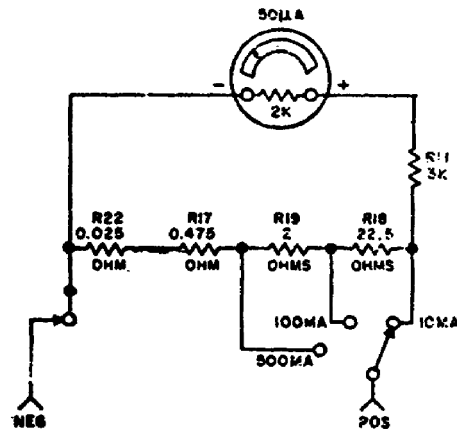

Figure 10. DC ammeter.
f. Figure 10 shows the simplified diagram of a typical DC ammeter. The ammeter circuit must shunt most of the current being measured away from the meter movement. On the 10 milliampere (10mA) range, the meter movement resistance of 2K ohm is in series with the 3K ohm resistance of R11. R17, R18, R19 and R22 are in series with each other and are in parallel with R11 and the meter movement. Resistive values have been selected so that 50µA will flow through the meter and R11 and 9.950mA will flow through R22, R17, R19 and R18 when 10mA is being measured. The truth of this statement can be proved using Ohm's law. Let "x" be equal to the amount of current flowing through the meter when there is a 10mA current input to the circuit. The voltage across both parallel sections of the circuit must be equal so: